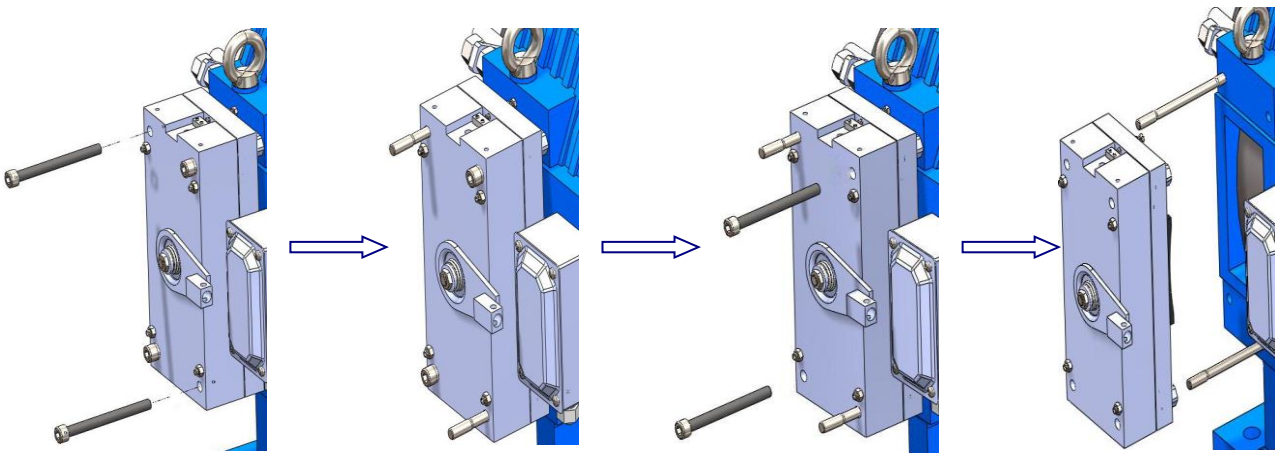

Figure 19: Brake removal
3. Remove two bolts M10x110 which are opposite each other with hex wrench (8mm). See Figure 19.